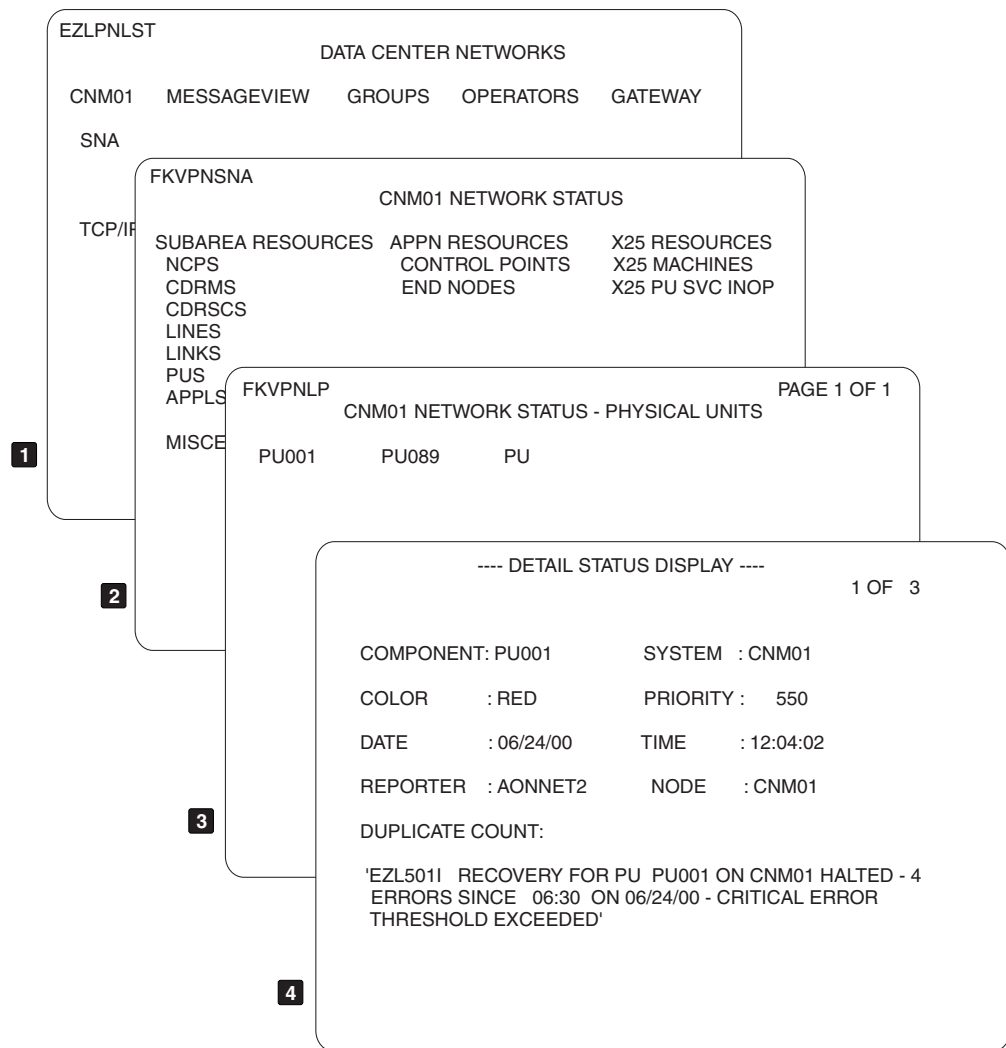

Figure 5. Sample DDF Panel Flow of SNA Resources
DDF presents a hierarchical status display. Figure 5 on page 17 illustrates a sequence of sample SNA-specific DDF panels, moving from the domain to the resource level.
In Figure 5 you can see:
- 1 The Data Center Networks panel is the first DDF panel. In Figure 5, **SNA**, and **TCP/IP** represent the SNA and TCP/IP resources in the domain, CNM01. To see the types of SNA resources defined to CNM01, move the cursor to **SNA** and press the down key, **F8**.